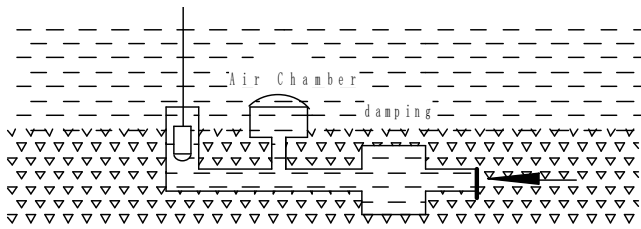

Figure6 Installation in Flowing Water
- c) See Figure 6, It is a good way for avoiding any possible water wave or shock on the transmitter. And this can also leach dirt or sands in the water.